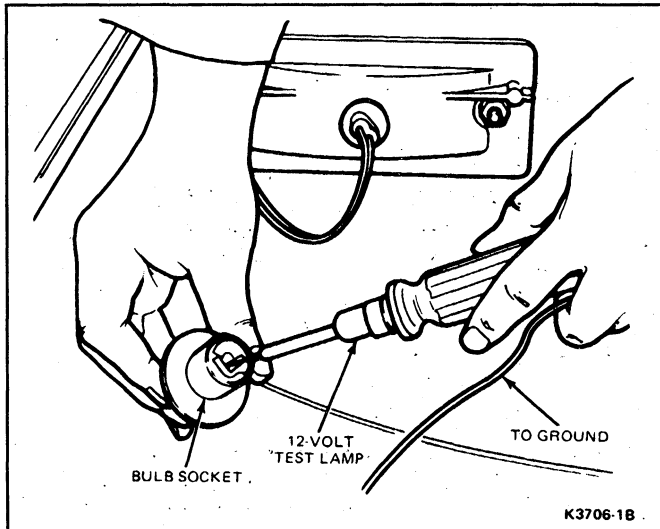

FIG. 9 Bulb Sockets Power Test
3. Connect 12-volt test lamp to a good ground (Fig. 9).
4. Contact probe of test lamp to the wire connection at the bulb socket (Fig. 9) to check for continuity to the following turn signal lamps: